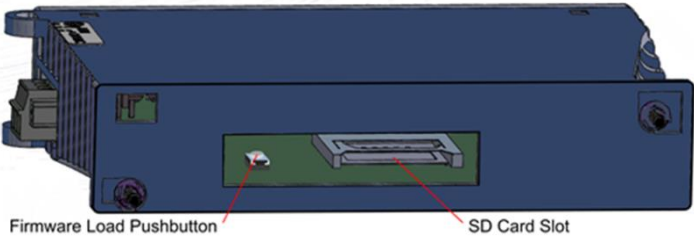
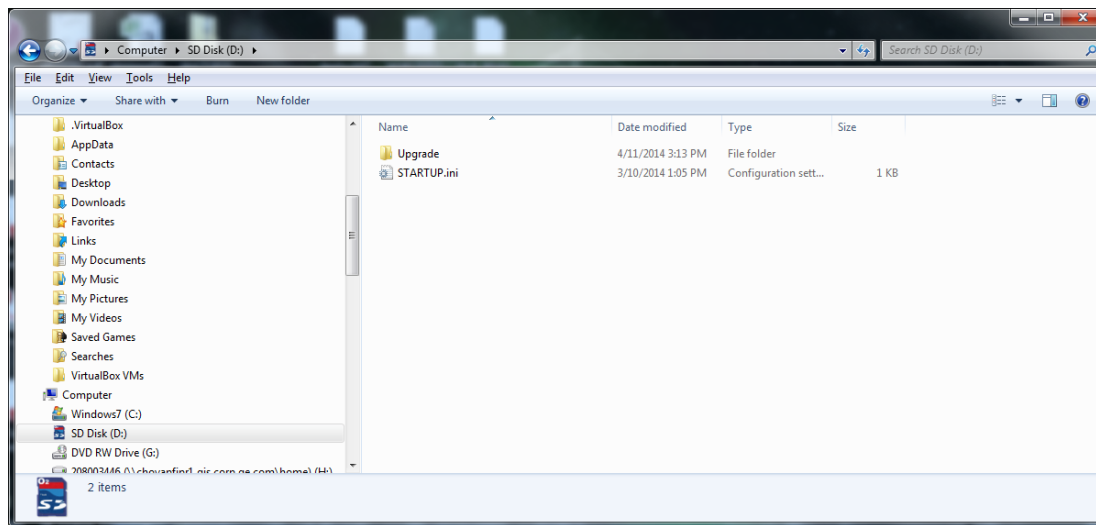

Figure 8: Rear View of GCG001
Figure 13: GCG001 Firmware Upgrade ZIP File UnZIPped to SD Card
The SD card slot is designed to support a Secure Digital (SD) non-volatile memory card in standard capacity format. This optional card has two distinct uses: (1) backup storage of some key PROFINET configuration data and (2) loading new GCG001 module firmware. Insert the SD Card into its slot at the rear of the GCG001 before mounting the module, as shown in Figure 8.
Refer to the rear view of the GCG001 module shown in Figure 8 (above). Whenever the GCG001 firmware needs to be updated, remove the SD card from its slot at the rear of the module, then install the SD Card in your PC and copy the new firmware to the SD Card. The ZIP file containing the GCG001 firmware upgrade may be found on the GE Intelligent Platforms Product Support web-site <http://www.ge-ip.com/support>. UnZIP as shown below (Figure 13).
After the SD card has received an update of the GCG001 firmware, install the SD card in its slot (see Figure 8). Note that the GCG001 must not be powered up while installing the SD Card. Next, while holding down the Firmware Load Pushbutton (see Figure 8), apply power to the module. This action causes the firmware to be copied from the SD Card to the GCG001 module itself. Continue holding the pushbutton until the OK LED turns amber, then release the pushbutton. When the OK LED turns green, the firmware has been loaded. Cycle power on the module and wait for the OK LED to turn green and steady. The module is then ready to be properly mounted (see section 1.4.1) .